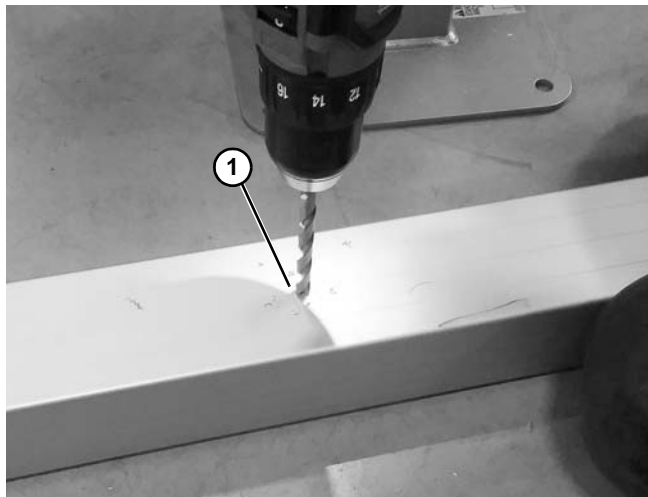

Figure 4
6. Drill holes (**Figure 4, item 1**) in enclosure.